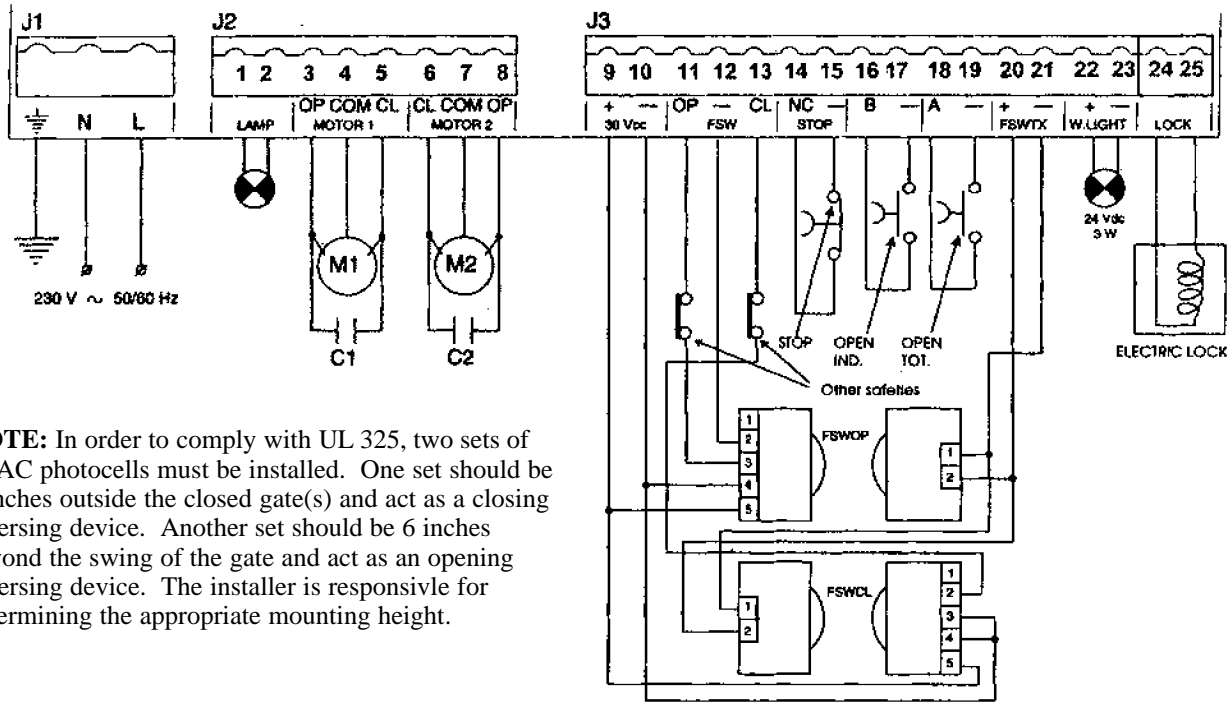
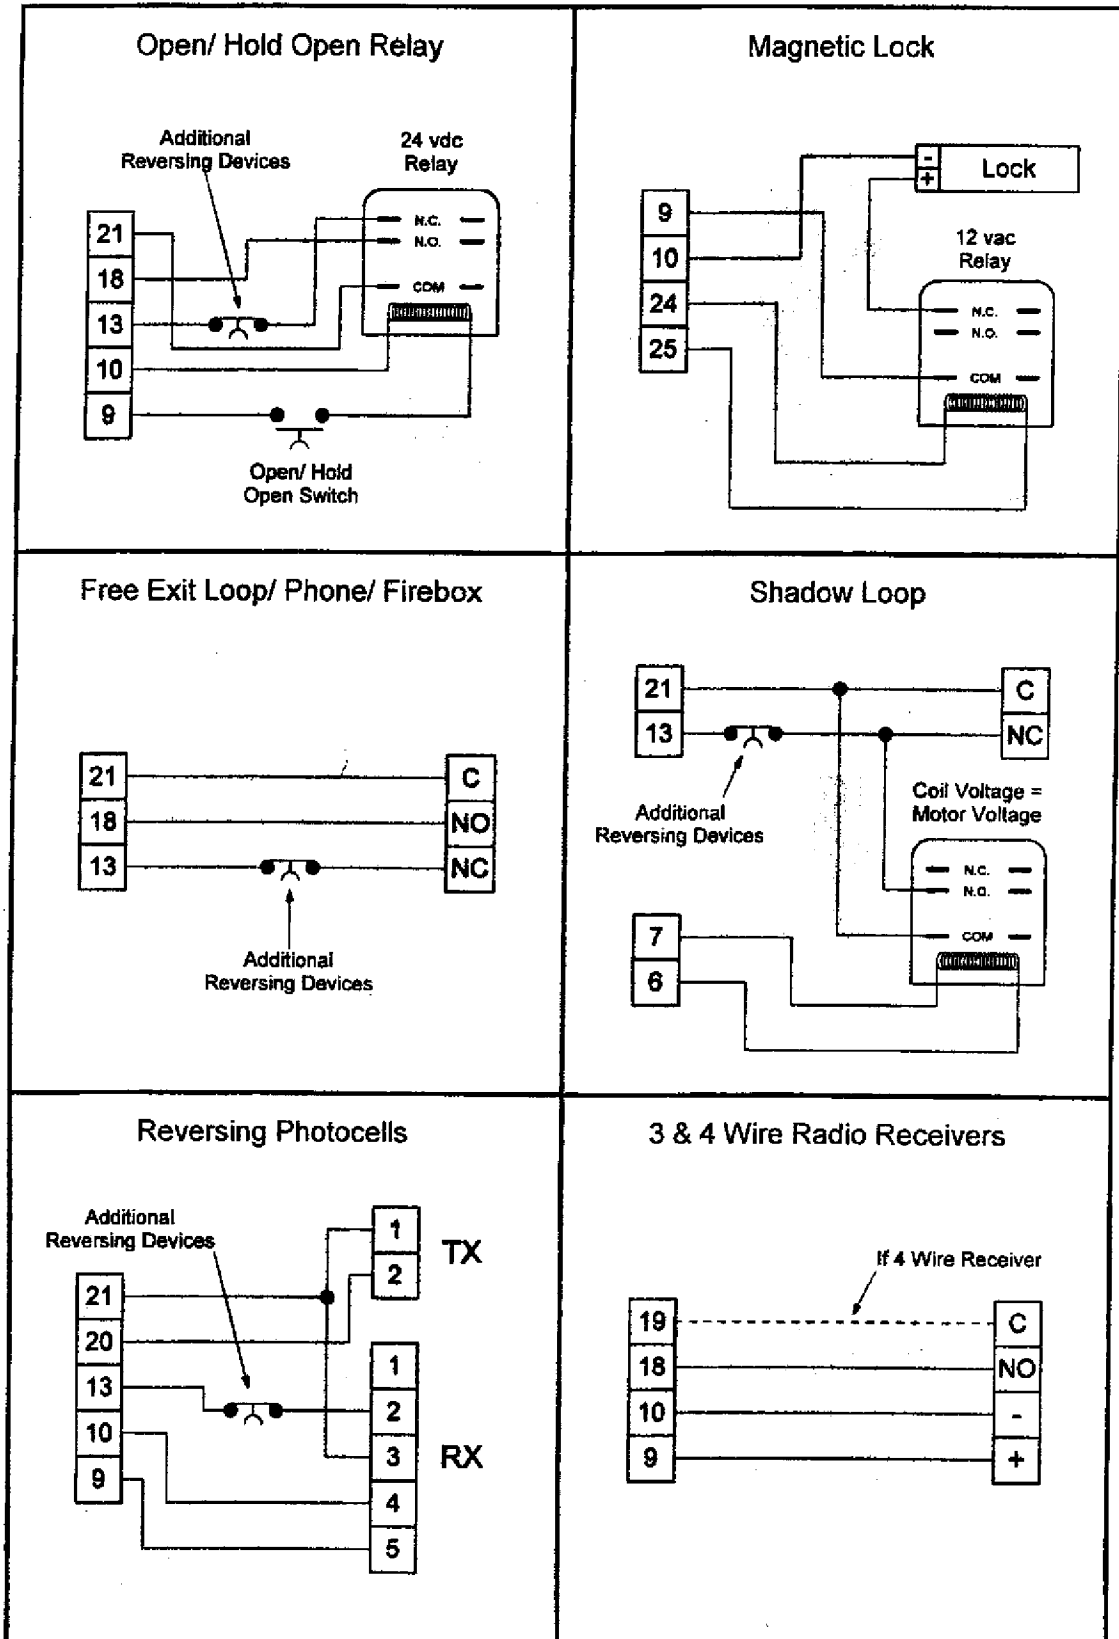

Figure 9. The terminal strip wiring of the 450 MPS
Figure 11. Common accessories wired to 450 MPS.
Now you can connect additional reversing and activating devices to the control panel. Refer to Figure 8 for the general control panel layout, and refer to Figure 9 for the layout of the terminal strip.
To wire photocells, refer to Figure 9 (see FSWOP for opening photocells, and FSWCL for closing photocells-connect the photocells exactly as shown). See Figure 11 for the wiring of a variety of common accessories. In either case, if you have multiple devices, wire them in series.
**Open/Hold Open Device:** To open and hold open the gate, an Open/Hold Open device must make a set of contacts across terminals 18 and 21 and must break a set of contacts between terminals 13 and 21. See Figure 11 for more detail.
See Figure 11 for the wiring of a magnetic locking device.